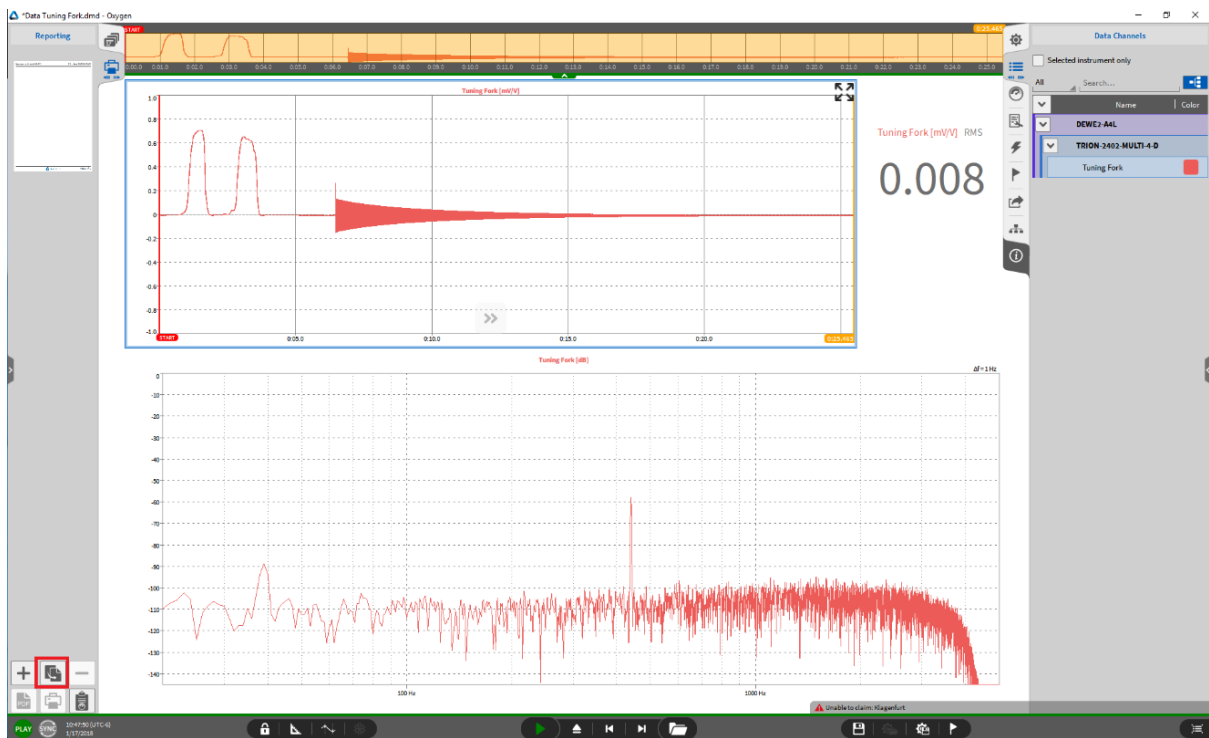
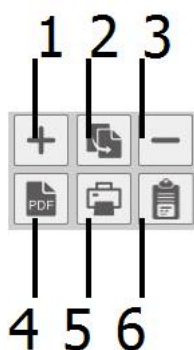

Fig. 14.4: Click the *Copy* button
Fig. 14.10: Push buttons in the *Reporting* Menu
- Click the copy button at the lower end of the Reporting menu (see Fig. 14.4 or ② in Fig. 14.10)
- The buttons on the lower end of the *Reporting* Menu (see Fig. 14.10) have the following functionalities: